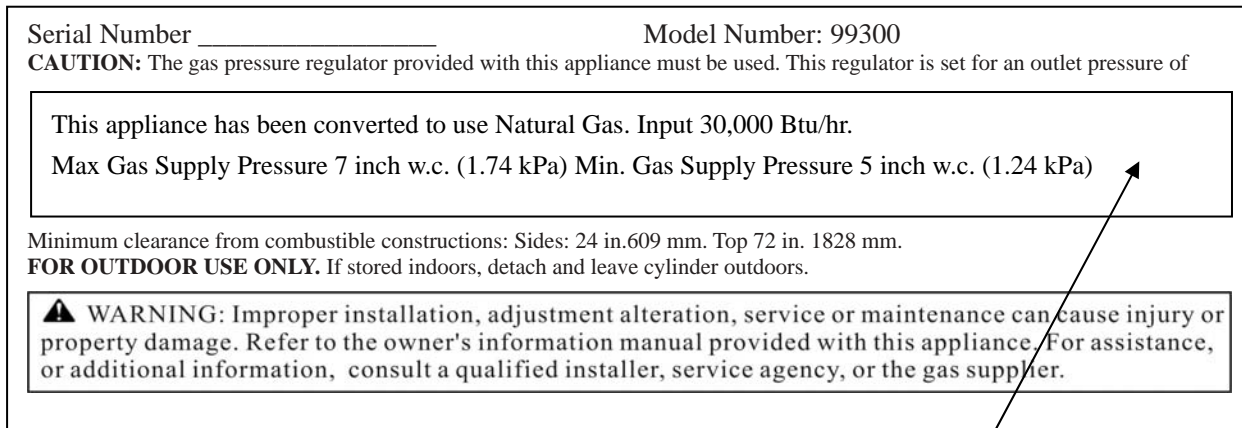

Figure 11
Step 5- Stick the conversion label on the rating plate as shown in Figure 11.